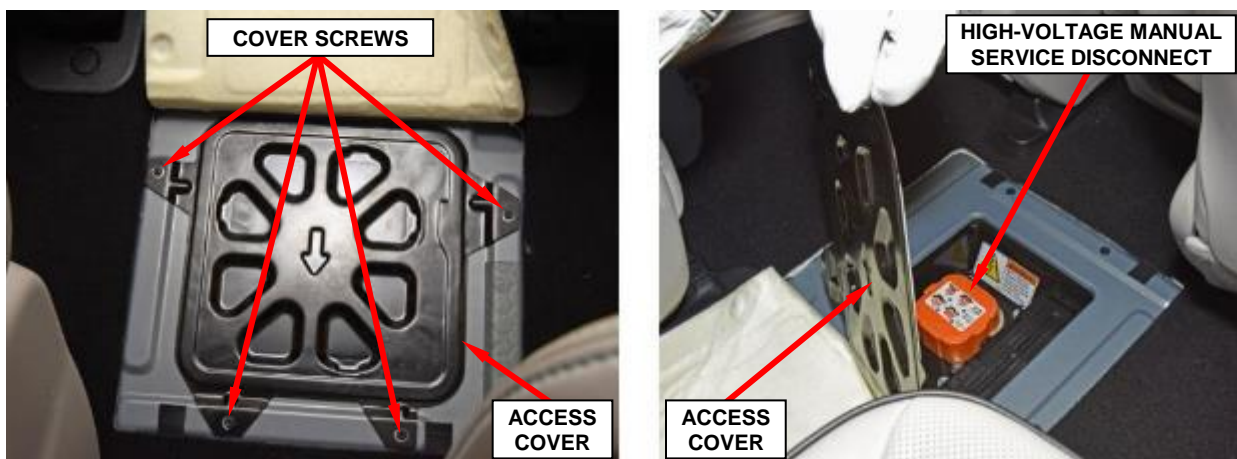

Figure 13 – High-Voltage Manual Service Disconnect Access Cover
5. Remove and save the four screws securing the high-voltage manual service disconnect access cover to the floor then remove and save the cover (Figure 13).
33. Reinstall the service disconnect (Figure 13).
34. Reinstall the service disconnect cover (Figure 13).